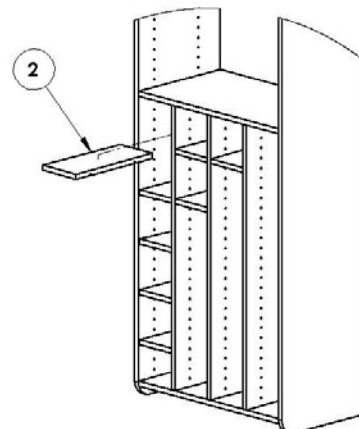

FIG. 2
- Position Shelves (#2) on top of Pins, aligning slots (Fig. 2).